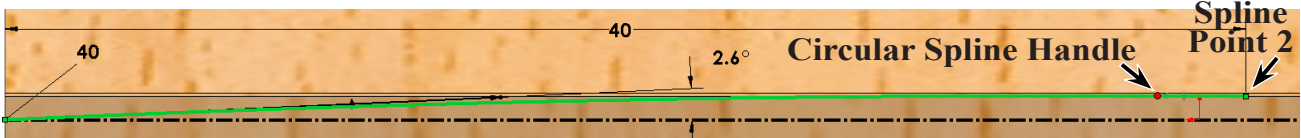

Fig. 25
Step 12. Click Spline to display the Circular Spline handle and locate the **Circular Spline handle** ● of **Spline Point 2**, Fig. 25.